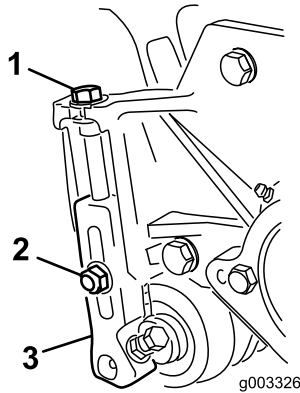

Figure 22
1. Loosen locknuts securing height-of-cut arms to cutting unit side plates (Figure 22).